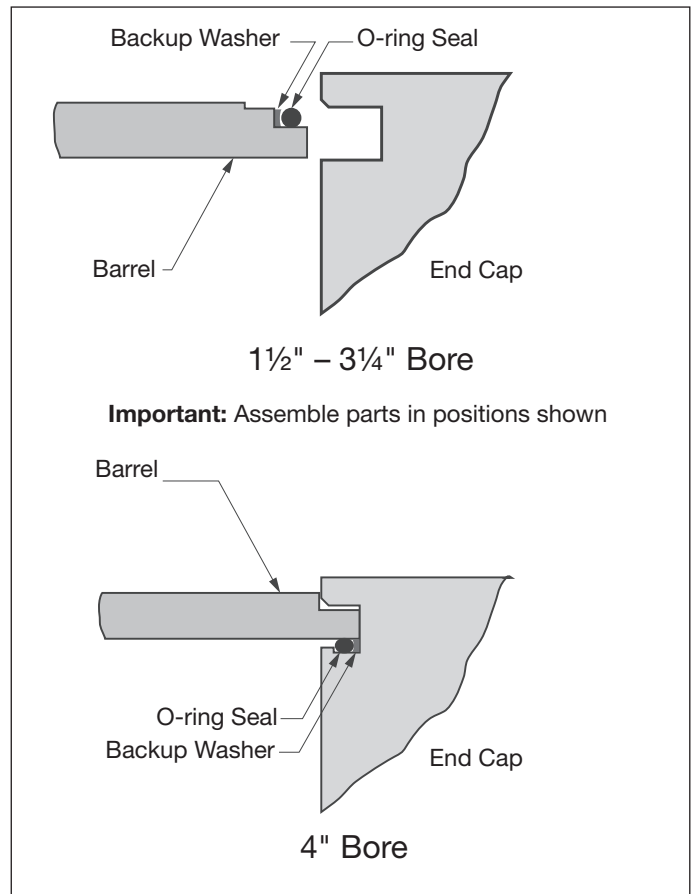

Figure 4 - Barrel Seal Arrangement
- a. Coat each backup washer and O-ring seal with oil or grease (compatible with system fluid). Assemble these parts on the first land (step) at each end of the barrel. See top of Figure 4 for details.
- a. Coat each backup washer and O-ring seal with oil or grease (compatible with system fluid). Assemble these parts inside the barrel groove on each end cap. Note notched area on inner diameter of groove. See bottom of Figure 4 for details.